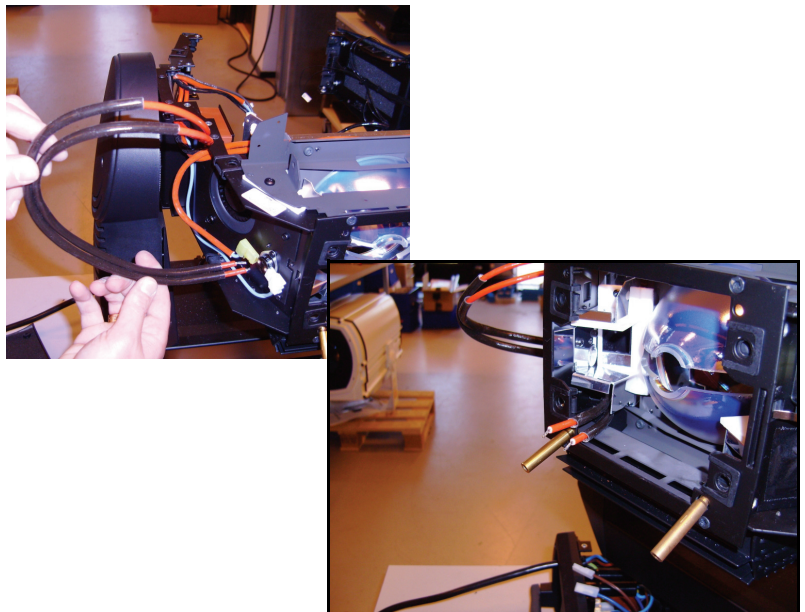

Figure 57
62. See Figure 57. Install the heat sleeve supplied in the Upgrade Kit on the lamp leads and thread the lamp leads into the lamp compartment.